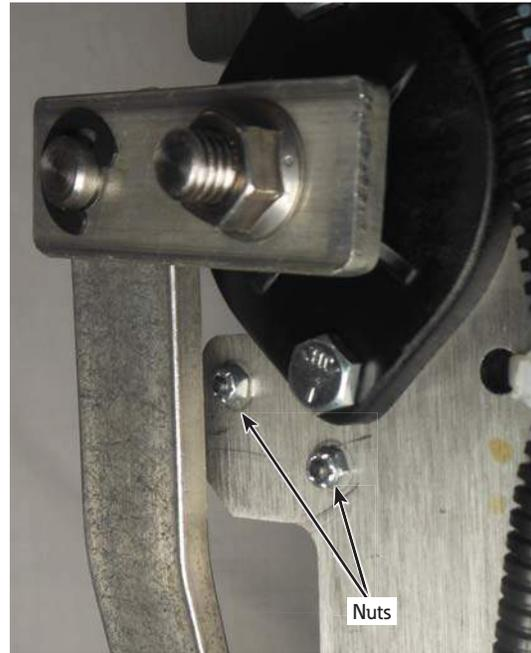

**Figure 131. QD8 logic micro-switches placement connections**
2. Identify the switches to be replaced and the position of these switches on the tap changer. See Figure 128 for neutral and safety switch replacement and Figure 131 for logic switch replacement.
13. Identify the switches to be replaced and the position of these switches on the tap changer. See Figure 131.
16. Connect the wires to the new switch by sliding the connectors onto the bladed terminals. Make sure the wires are connected to the correct terminals. View Figure 131 as a guide for the wire connections. Repeat for each switch being replaced.